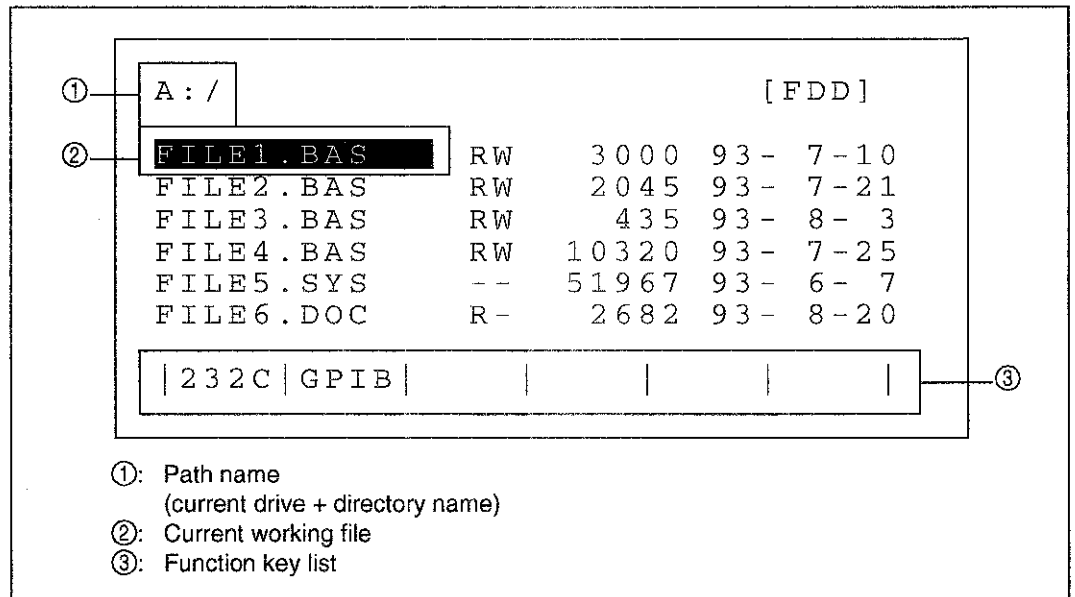

Figure 4-32 PRT Display Screen
- ③: The function key list indicates the function keys available by TYPE (file contents display).
(5) PRT (printer output of file contents) screen
When PRT (K3) is selected with the function key from the FILE mode, a screen like that shown in Figure 4-32 appears if the working file is a text file. (For details, see (3) in subsection 4.1.3 "FILE Mode".)